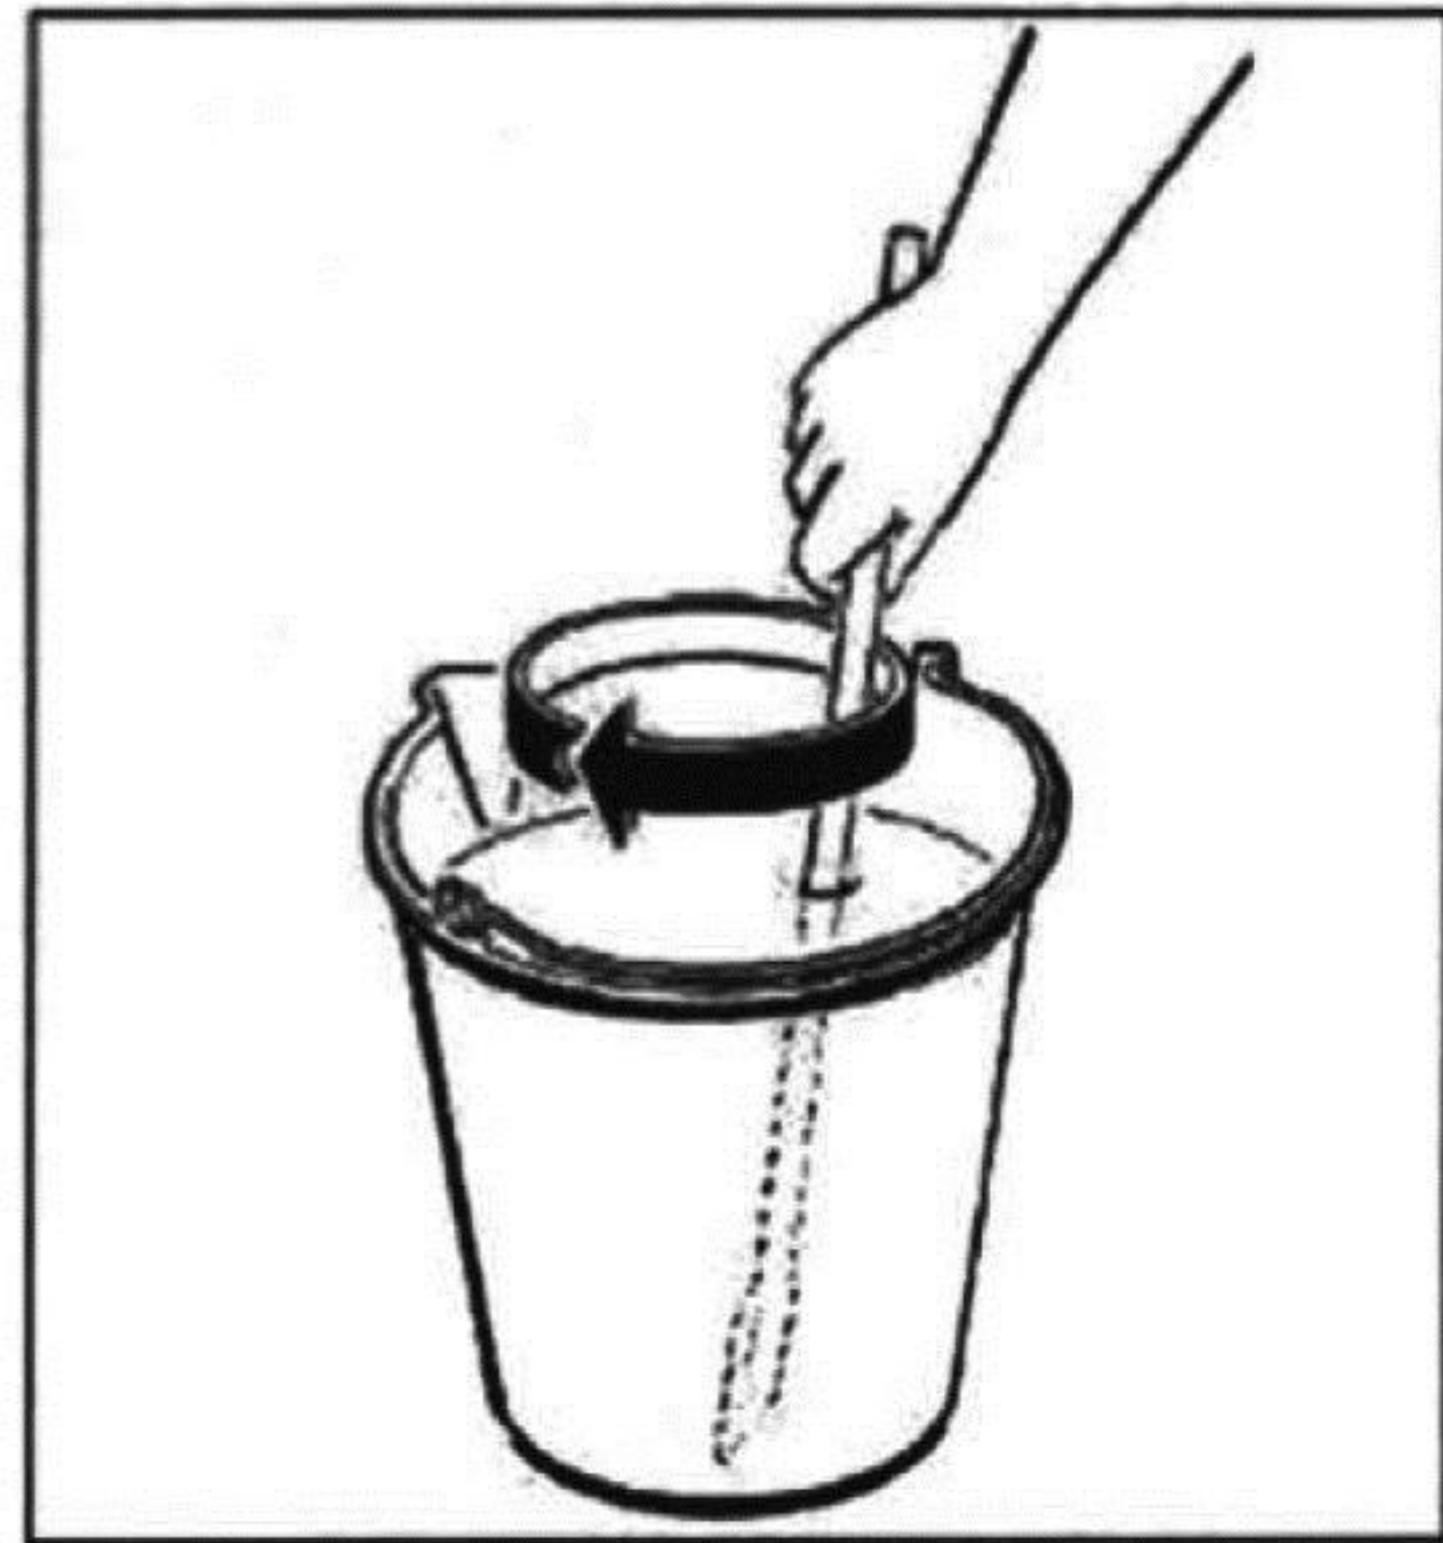

fig.4
- Dilute and mix the product in a separate container according to the manufacturer's instructions (see fig.4).